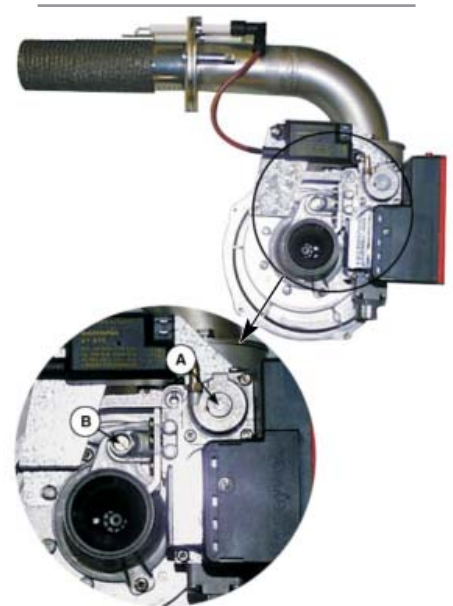

Fig. 5.e
2. adjust the flow regulator B (see Fig. 5.e): clockwise to decrease the value, anticlockwise to increase it (given the sensitivity of the screw, fine adjustments are sufficient);